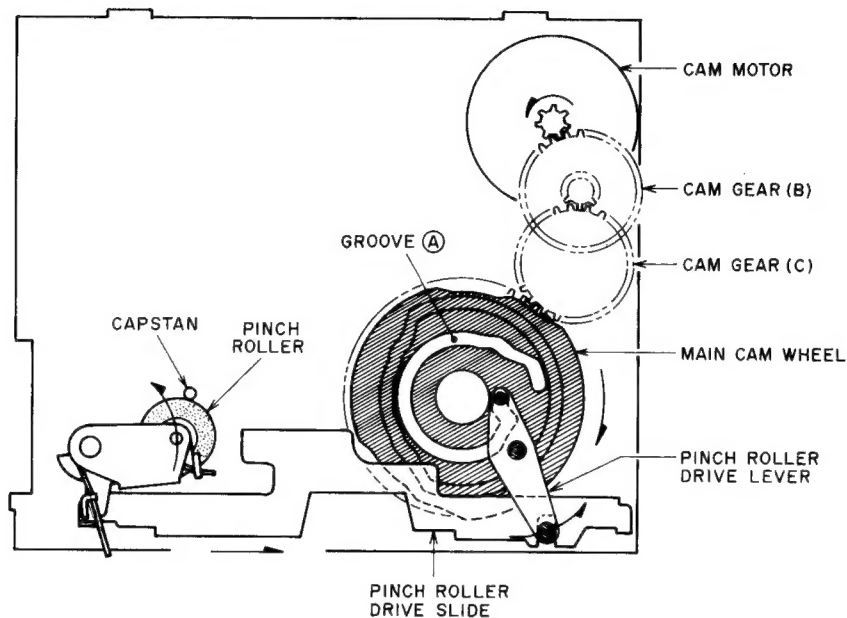

Fig. 5-1
1) Pinch roller (Refer to Fig. 5-1)